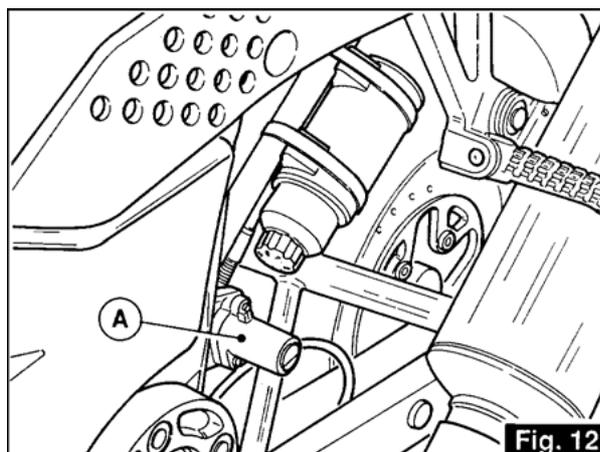

Fig. 12
3.16 DISPOSITIF PORTE-CASQUE (fig. 12)